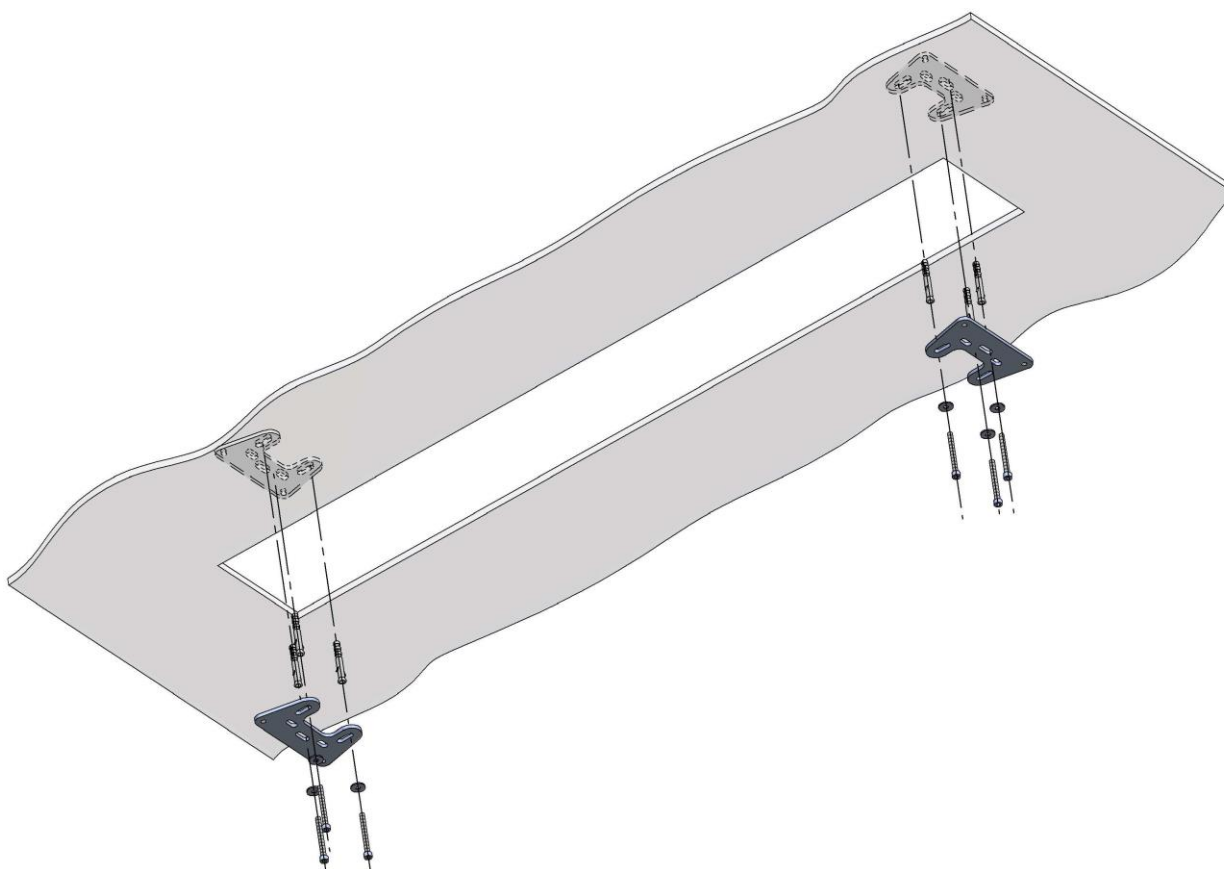

Fig. 5
- In place of the holes drilled in fixed ceiling, screw the mounting supports using the attached dowels and screws (**Fig.5**).